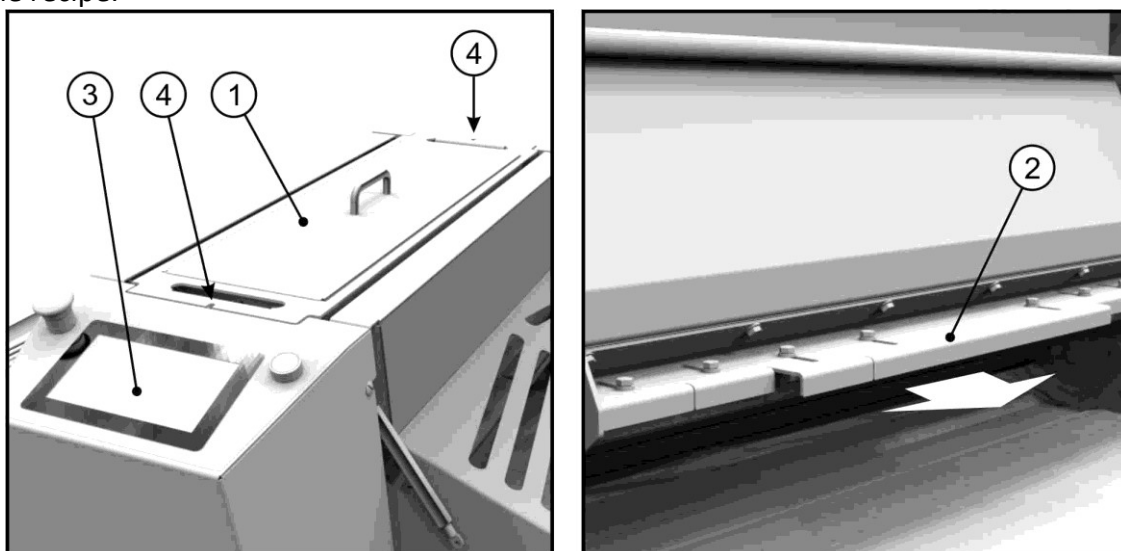

Figure 13
Use the flour duster in the following manner (refer to Figure 13):
- Remove the lid Ref. 1 (if present) and unscrew the two screws Ref. 4 Figure 13